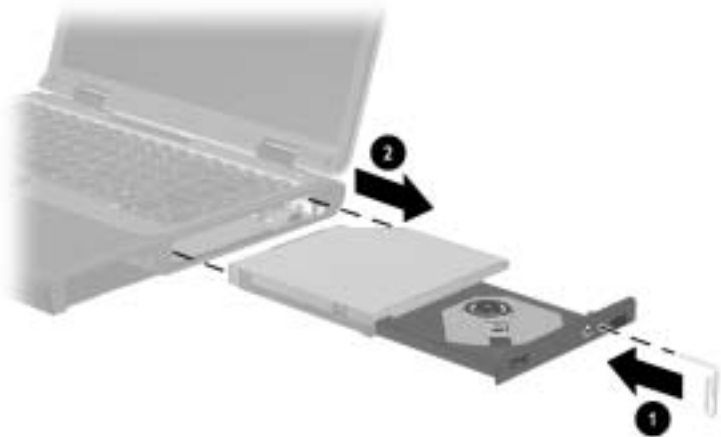

Figure 5-5. Removing an Optical Drive
- d. Insert a paper clip or similar thin metal rod into the manual release hole on the front bezel of the optical drive ❶ (Figure 5-5). Press firmly.
- e. Grasp the drive bezel and slide the drive out of the optical drive bay ❷.